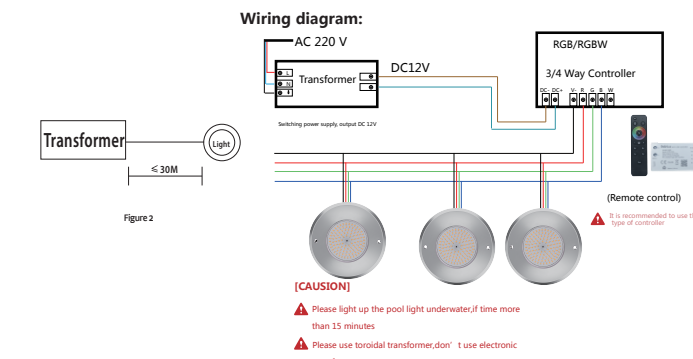

Figure 2
- The distance between the light and the transformer must not exceed 30m (See Figure 2), the cables connecting must be at least 6mm², and otherwise the light would not function properly.